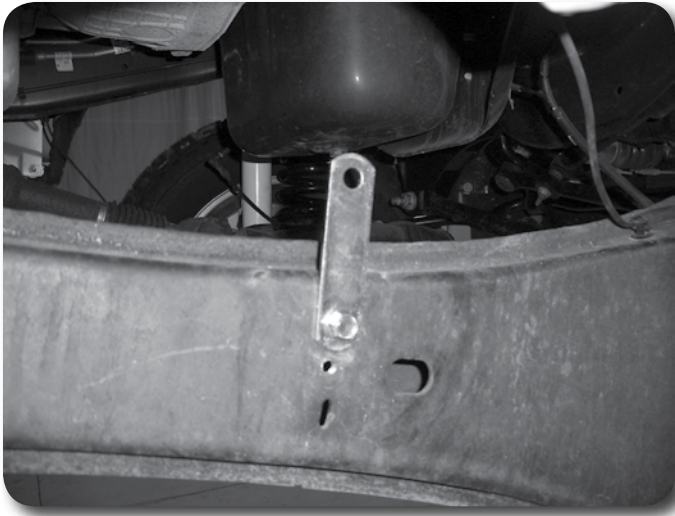

Figure 15
30. Located the slotted hole in the radius arm where the original plastic ABS tab mounted. There will be two slotted holes, one on top of the other. Attach the provided 3" ABS bracket radius arm using a provided 5/16" screw into the top slotted hole. The should point straight up. Tighten hardware securely. **Figure 15**